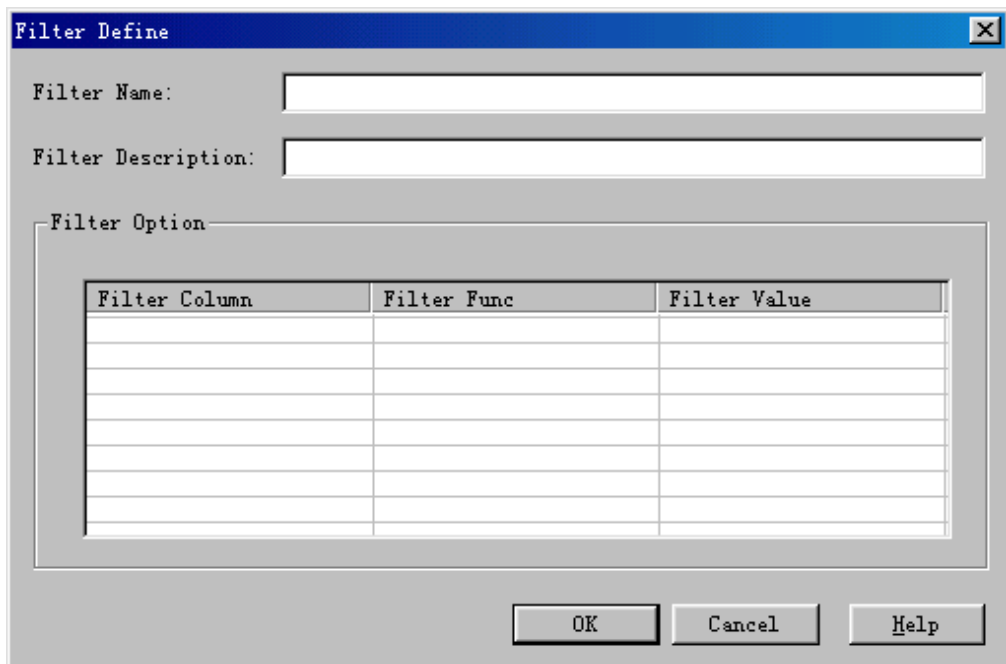

Figure 8-7 Filter Define dialog box
- 3) Set one or more filtering conditions in the **Filter Define** dialog box as shown in Figure 8-7.